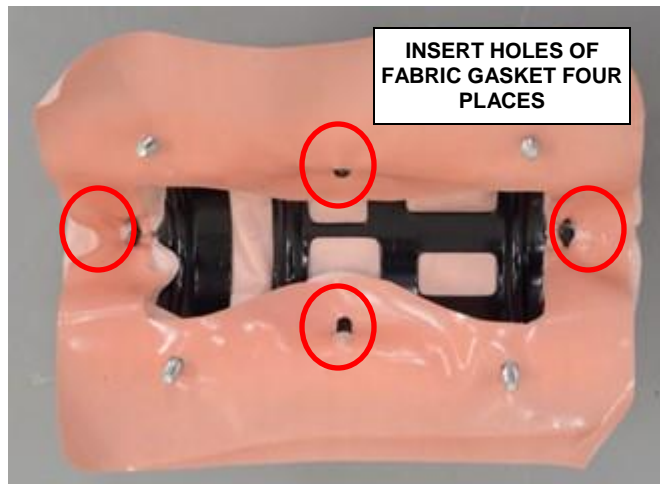

Figure 66 – Fabric Gasket
- j. With the help of a trim tool insert the holes of fabric gasket, four places (Figure 66).